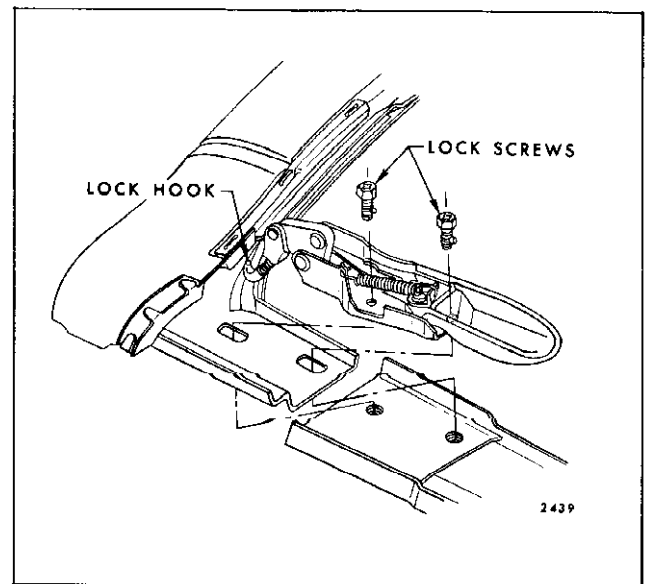

Fig. 13-80 - Lock Attachment
2. Loosen side roof rail lock attaching screws and adjust front roof rail fore or aft as required. Repeat on opposite side if necessary (Fig. 13-80).
2. With top in a half-open position, remove lock attaching screws; then, remove lock assembly from front roof rail (Fig. 13-80).